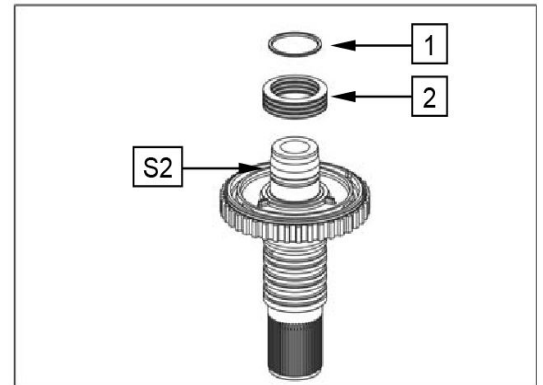

Figure 546
**Installation position of L-ring and cup spring set see Figure 546.**
(S2) Slip bushing, see Figure 546.